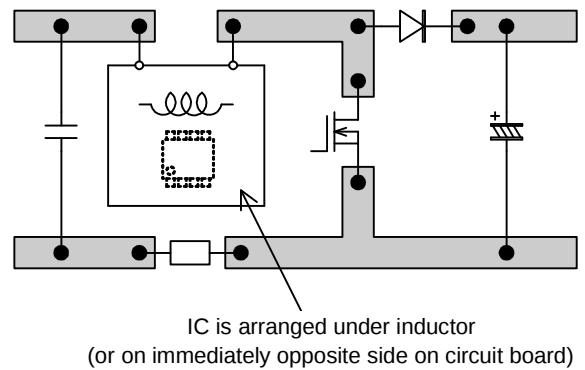

Fig.32 Example of inadvisable arrangement (1)
- IC is arranged under inductor or other main circuit parts, or immediately behind main circuit parts on double sided circuit board (Fig. 32)